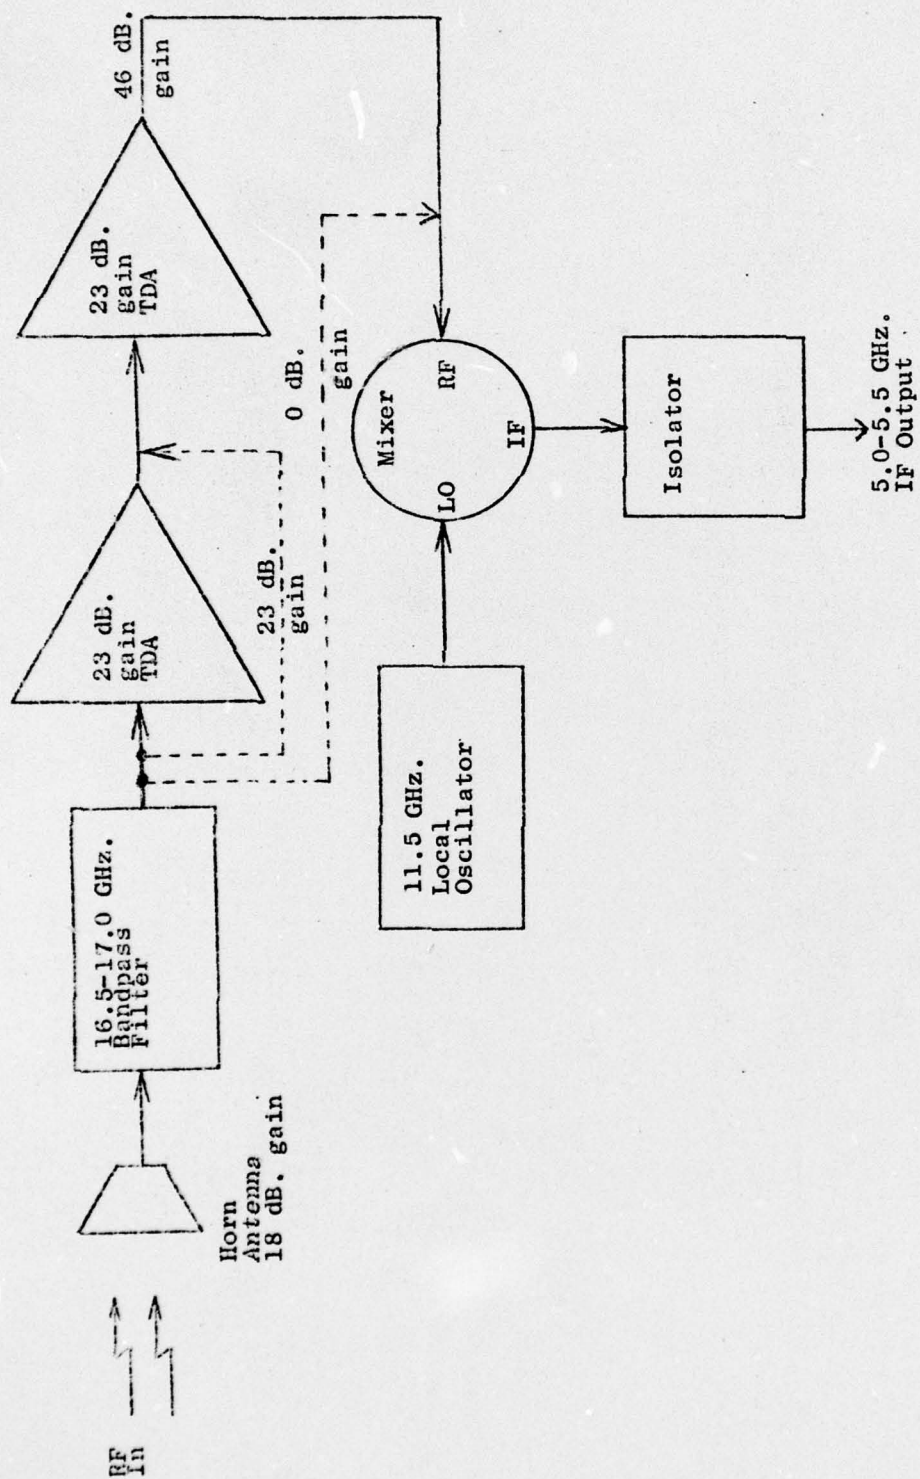

FIG. 12
V. Translator Block Diagram - see Fig. 12